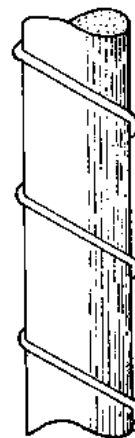

Fig. 2
- RIBBED BARS: The round bars with a ribbed surface are called ribbed bars and are available in diameters ranging from 6 mm to 40 mm, if the bar is cross-ribbed (Fig. 2, next page). For obliquely ribbed bars, the diameters range from 6 mm to 28 mm (Fig. 3, next page). This last type of reinforcement is also called "tendor bar" and it is the strongest reinforcement steel available.